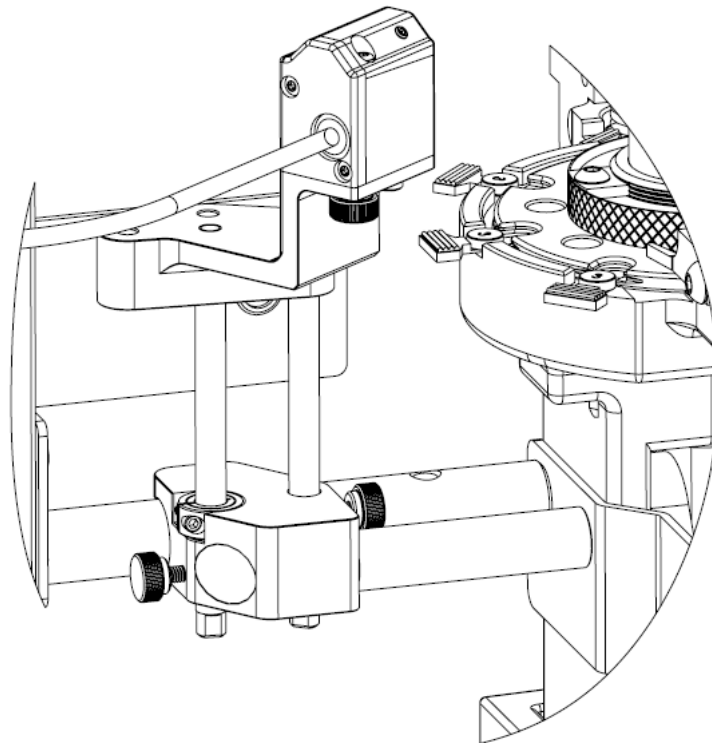

Figure 2: Mounting the Main Assembly
2. Mount the BulletSense® Main Assembly on the case feeder support pole using the supplied 3/8" socket cap screw and the aluminum spacer. Reference Figure 2 below.